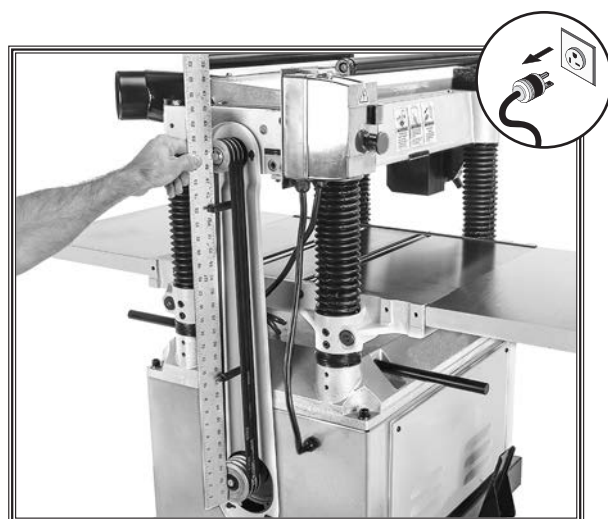

Figure 47. Example of checking pulley alignment.
2. Remove belt cover, then use straightedge to check pulley alignment, as shown in **Figure 47**.